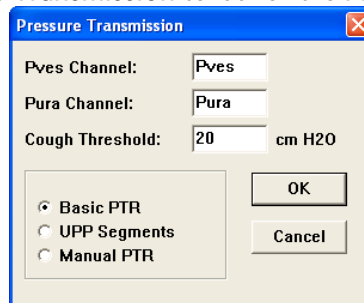

Figure 58: Pressure Transmission window
1. Click **Info > UPP** and select **Pressure Transmission** to launch the **Pressure Transmission** window (Figure 58).